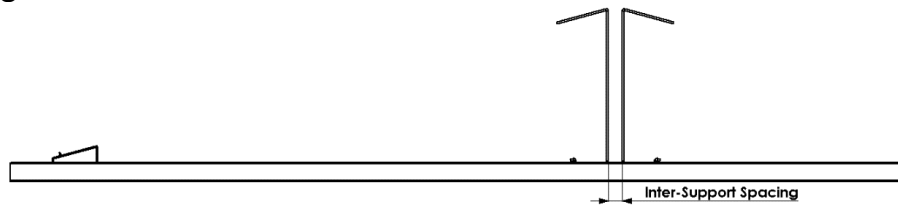

Figure 13 - Inter-Support Spacing
- 6 Click-in a Top Support at the distance obtained in Step 5, with your spacing stick. Ensure that the Top Support mirrors the one installed in Step 4, as shown in Figure 13.